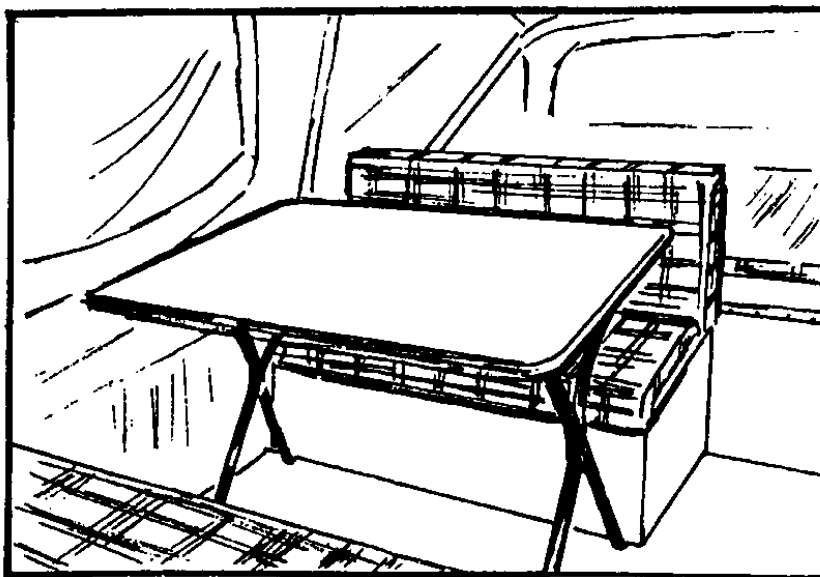

Figure 13
18. Set the dinette table in place by extending the legs completely so that both leg supports lock into position. Set table upright and check to insure it is stable. See Figure 13.